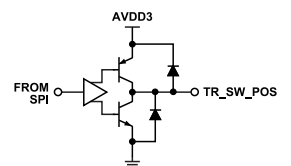

Figure 88. TR_SW_POS Switch Driver
- ▶ TR_SW_POS for a positive voltage control transmit/receive switch. Outputs between 0 V and AVDD3 (nominally 3.3 V) (See Figure 88).